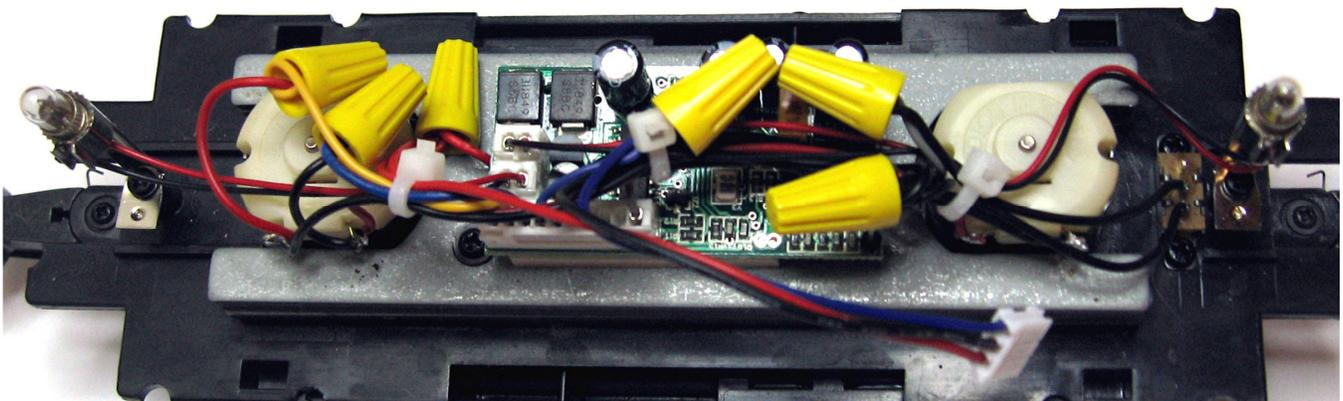

Figure 14 – Chassis complete
8. Locate the provided cable ties and, while referring to Figure 14, use them to secure the chassis wiring. Wires should be positioned so they will not be pinched between the chassis and shell or other parts. Avoid placing wires directly in front of windows for a better appearance. When complete, cut the cable ties to remove any excess length.